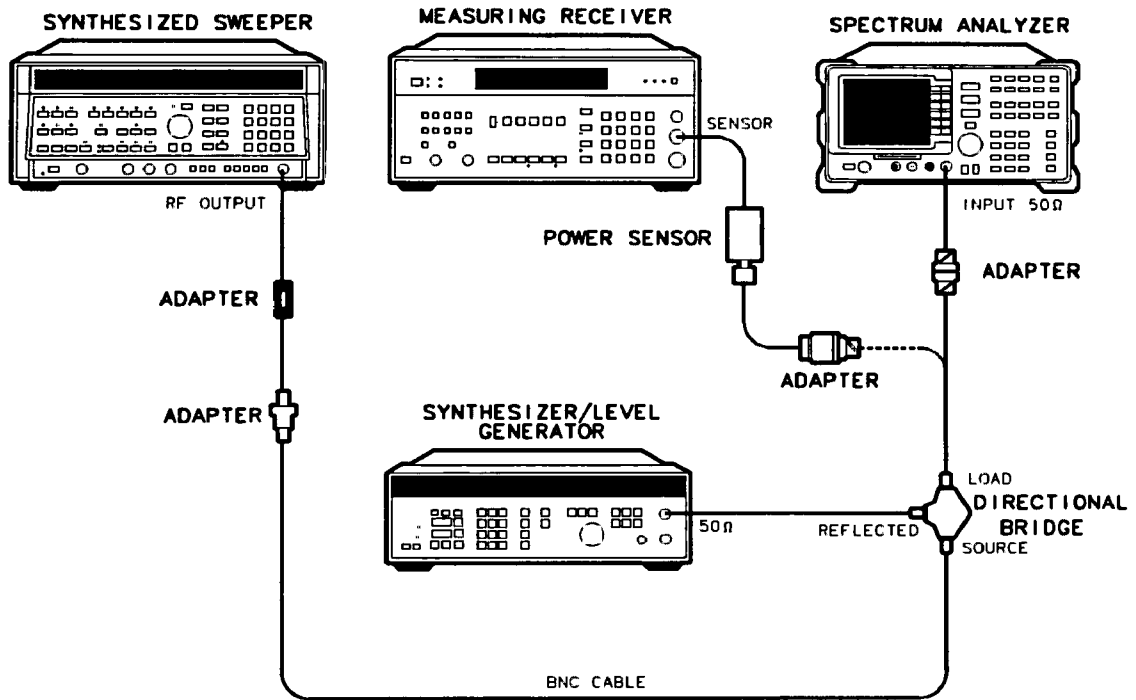

Figure 3-15. Gain Compression Test Setup
2. Set the signal generator to output a 100 MHz, CW signal. Connect the level generator to the REFLECTED power connector of the directional bridge, as shown in Figure 3-15. Use the power meter and power sensor to set the signal generator output level to 0 dBm, measured at the LOAD connector of the directional bridge. Temporarily disconnect the signal generator from the directional bridge. Terminate the REFLECTED port with a 50 Ω load.
3. Set the synthesizer to output an 80 MHz, CW signal. Connect the BNC cable to the synthesizer RF output. Use a power meter and power sensor to set the synthesizer output level to -24 dBm at the free end of the BNC cable. Connect the synthesizer to the SOURCE connector of the directional bridge, as shown in Figure 3-15.
4. Connect the LOAD connector of the directional bridge with the adapter, to the HP 8590A RF input, as shown in Figure 3-15.